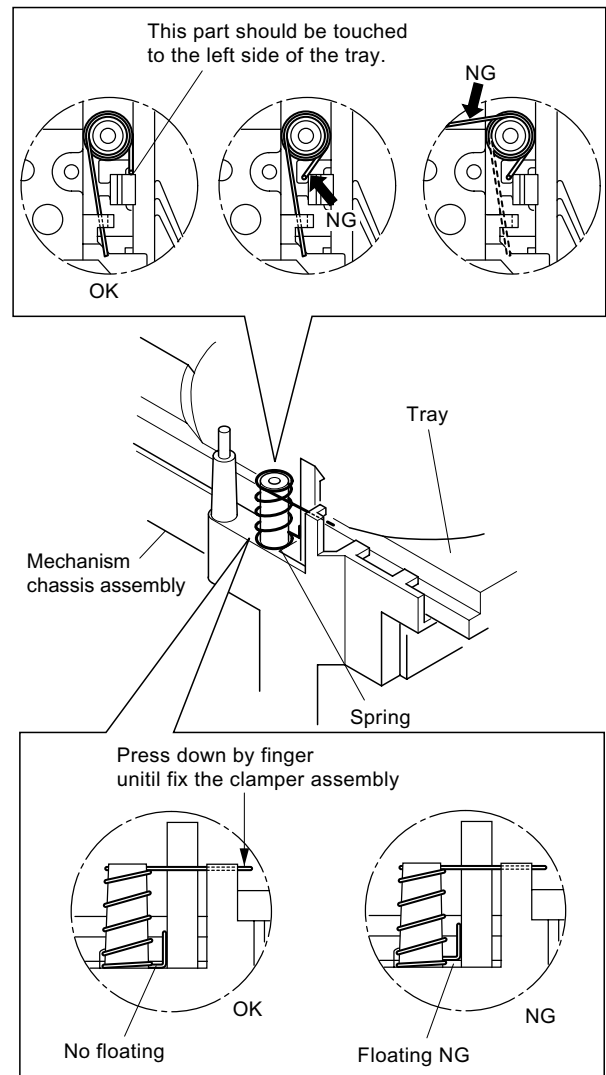

Fig. 2-1-14
2. By referring to Fig. 2-1-14, insert the spring normally and mount the clamper stay.